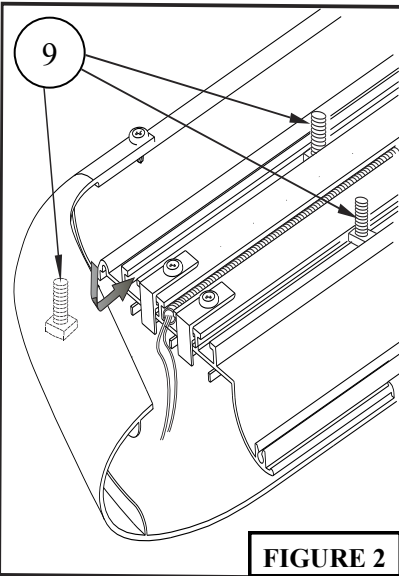
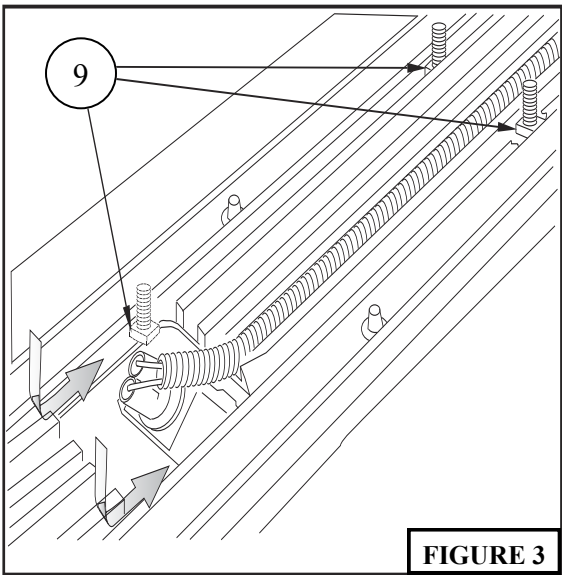
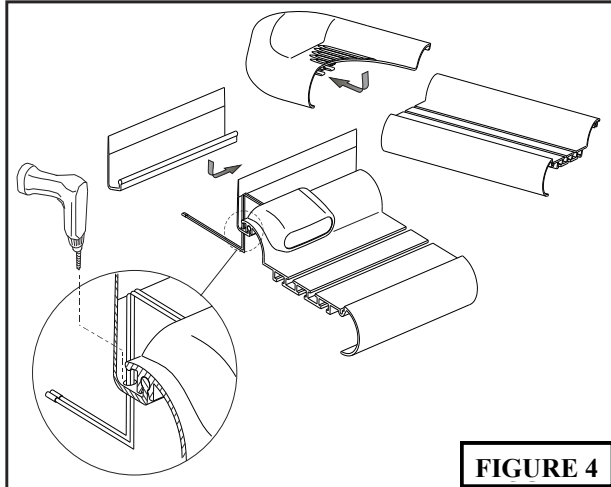

FIGURE 2
FIGURE 3
FIGURE 4
3. Insert square head bolts as shown (2 per slot, 4 per board). SEE **FIGURES 2 AND 3**.
NOTE: For lighted boards, route wiring harness prior to attaching the board to the brackets (refer to Step 5). SEE FIGURES 2 AND 3. Run the longer wire harness on the passenger side.
4. For Sure-Grip Running Boards, slide Sure Grip Gap strip as shown. Set lights (optional) in appropriate location. Attach to Sure-Grip Running Board as shown. SEE **FIGURE 2**. Drill hole through plastic strip and run wires as shown. SEE **FIGURE 4**.
HINT: Step boards: For Longevity, check rubber seals before installation. Rubber grommets around red and blue wires going into rear sockets, should be inserted and recessed about 1/4". **NOTE:** Remove bulbs and apply white grease into sockets and replace bulbs. Apply RTV Silicone where lights go into socket. Install lights and run wire loom as shown. SEE **FIGURE 3**. For Sure-Grip Running Boards, run wire loom down center as shown. SEE **FIGURE 2**.